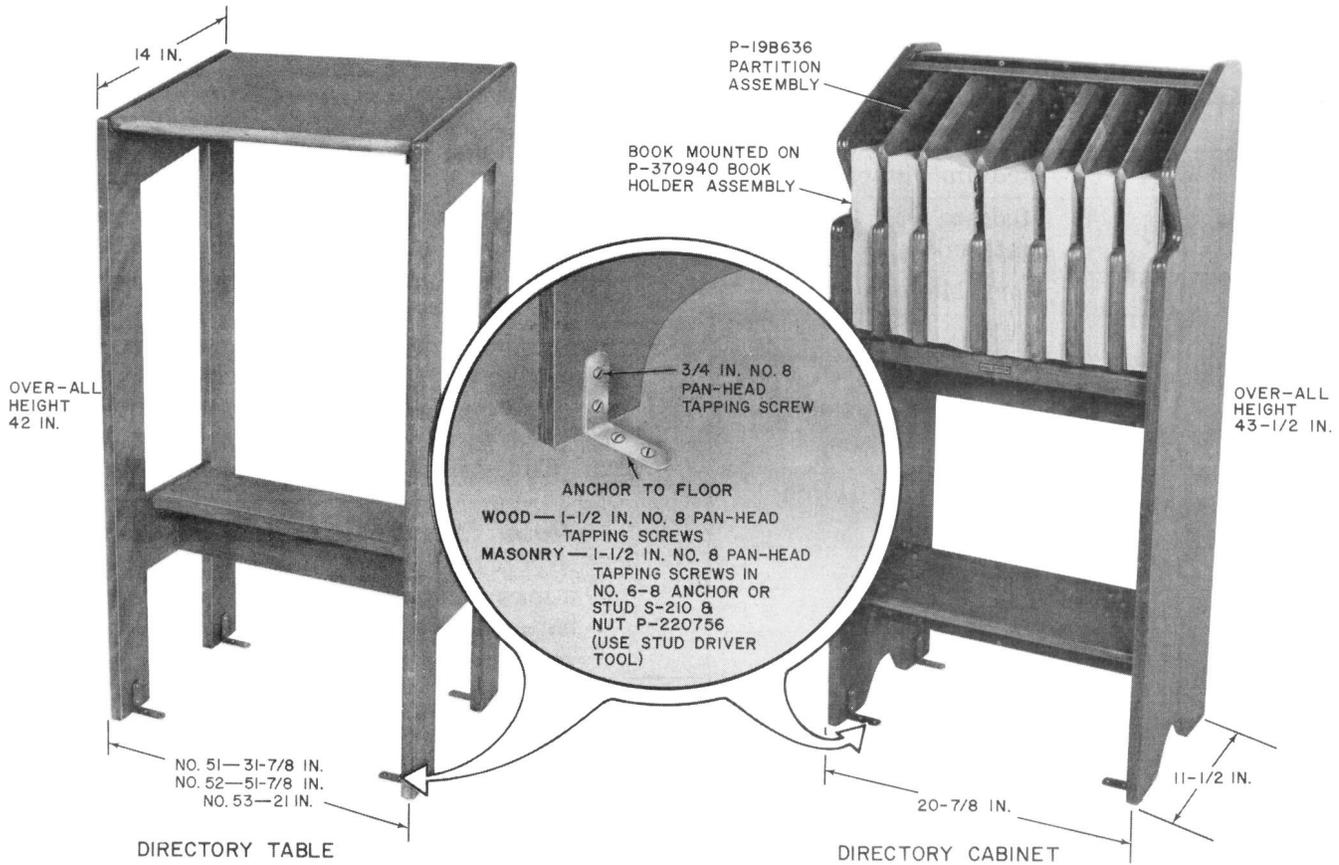

Fig. 4—No. 51-, 52-, or 53-Type Directory Table and 24-Type Directory Cabinet
- Change Fig. 4
2.09 Three directory tables (51-, 52-, and 53-type are available) (Fig. 4).
2.11 The three tables are similar; they differ only in width (Fig. 4).
2.12 Only one type directory cabinet (24-type) is available (Fig. 4).
3.06 Anchor tables and cabinets to floor per Fig. 4. Four angle brackets are furnished